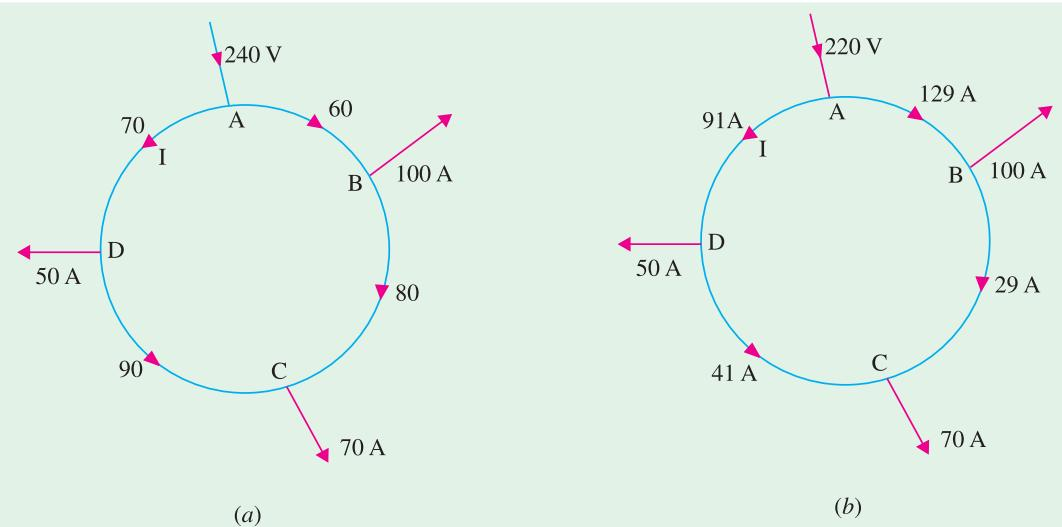

Fig. 40.29
**Example 40.17.** A 400-metre ring distributor has loads as shown in Fig. 40.29 (a) where distances are in metres. The resistance of each conductor is  $0.2 \Omega$  per 1,000 metres and the loads tapped off at points  $B$ ,  $C$  and  $D$  are as shown. If the distributor is fed at  $A$ , find voltages at  $B$ ,  $C$  and  $D$ .
**Solution.** Let us assume a current of  $I$  in section  $AD$  [Fig. 40.29 (a)] and then find the total drop which should be equated to zero.
The current distribution becomes as shown in Fig. 40.29 (b) from where it is seen that C is the point of minimum potential.